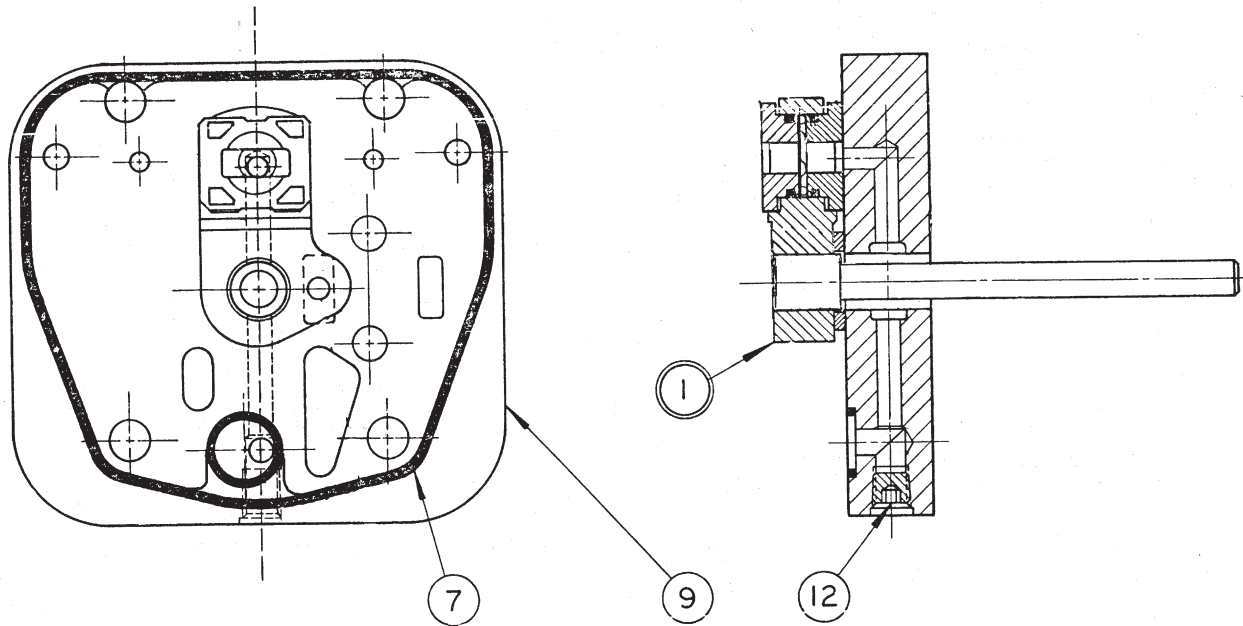

FIGURE 60-1
See Figure 60-1
8. Install spool (13) in stroker body. Press dowel (9) into clamp (8) to .500" (12.7mm) dimension shown. Install screw (4) in clamp. Slip clamp into body to engage groove in spool (13). Slip servo shaft assembly through the body and through the clamp.
10. Holding a flat plate against the ends of the spool bore, rotate the shaft clockwise and counterclockwise, causing spool (13) to travel from flush one side to flush the other side. Observe the position of the shear seal relative to the two 3/16 dowel holes in the cover. Position such that the overlap is equal on each side. Eliminate end play and torque screw (4) to 72 lbs-in. (8 Nm), locking the clamp to the shaft.
11. Place washers (17) into end connection (2). Place spring (16) on washer. Insert screw (21) into spring guide (14) and thread into end connection. Thread screw until spring guide (14) extends .308" (7.82 mm) beyond mating surface of end conn. (2). Thread nut (18) hand tight.
12. Place washer (15) and O-ring (22) in position as shown.
13. Using screws (26) bolt end connection (2) onto body (25). Torque to 14 lbs-ft. (19 Nm).
14. Install O-ring (19) on plug (20) and insert into end connection.
16. Install cover (23) with cover screws (24) and O-ring (27). Torque screws to 14 lbs-ft. (19 Nm).
17. If control is to be tested on pump, install on pump control pad with gasket (7), ref Fig. 60-1, Nylite washers (12), and screws (10). Torque to 30 lb. ft. (40.8 Nm).
For Figure 60-1 - Servo for hydraulic stroker